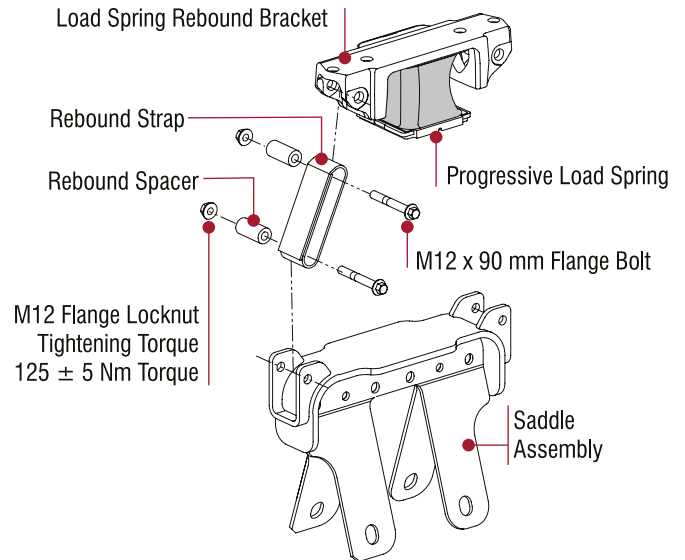

Figure 22: Rebound Strap Assembly
2. Remove and discard the M12 upper and lower rebound strap M12 fasteners and spacers, refer Figure 22.
3. Tighten the M12 fastener to **125 Nm** torque, refer Figure 22.
6. Tighten the M12 fastener to **125 Nm** torque, refer Figure 22.